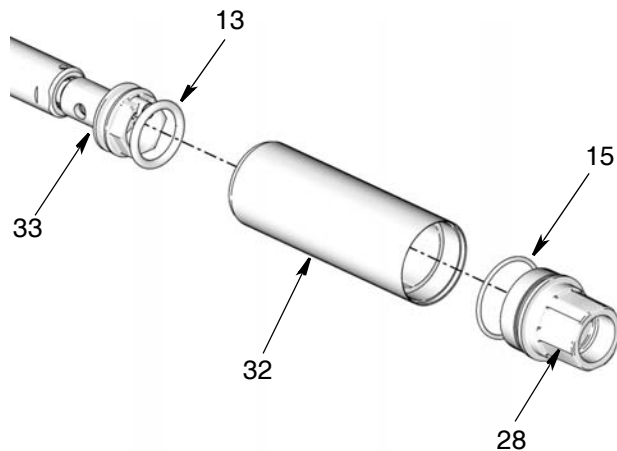

Fig. 25
1. Use a pick to remove the o-ring (13) installed around the circumference of the pump piston (33) (Fig. 25). Grease the new o-ring included in the kit and install it around the pump piston.
2. Use a pick to remove the o-ring (15) installed on the intake valve housing (28) (Fig. 25). Grease the new o-ring included in the kit and install it inside the intake valve housing.